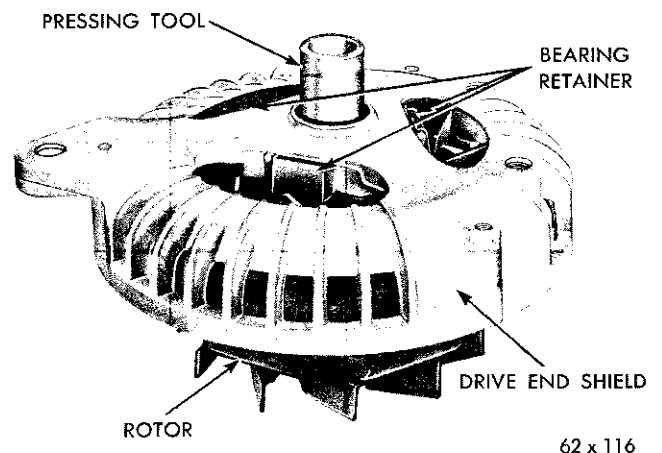

Fig. 38—Installing Drive End Shield and Bearings
(7) Insert the drive end bearing in the drive end shield and install the bearing retainer plate to hold the bearing in place.
(8) Position the bearing and drive end shield on the rotor shaft and, while supporting the base of the rotor shaft, press the bearing and shield into position on the rotor shaft with arbor press and Tool C-3858 (Fig. 38).